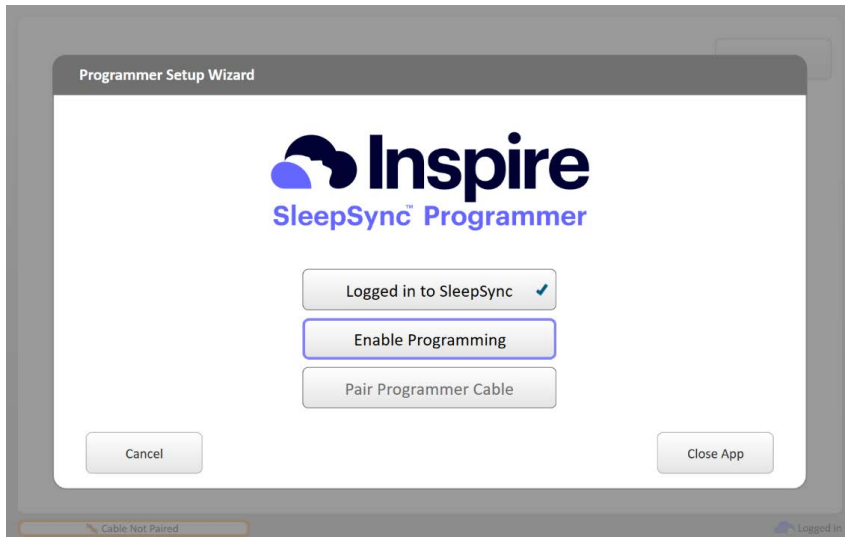

Figure 3-5. Enable Programming
- a. The Enable Programming button becomes active (Figure 3-5). Select **Enable Programming** to continue.